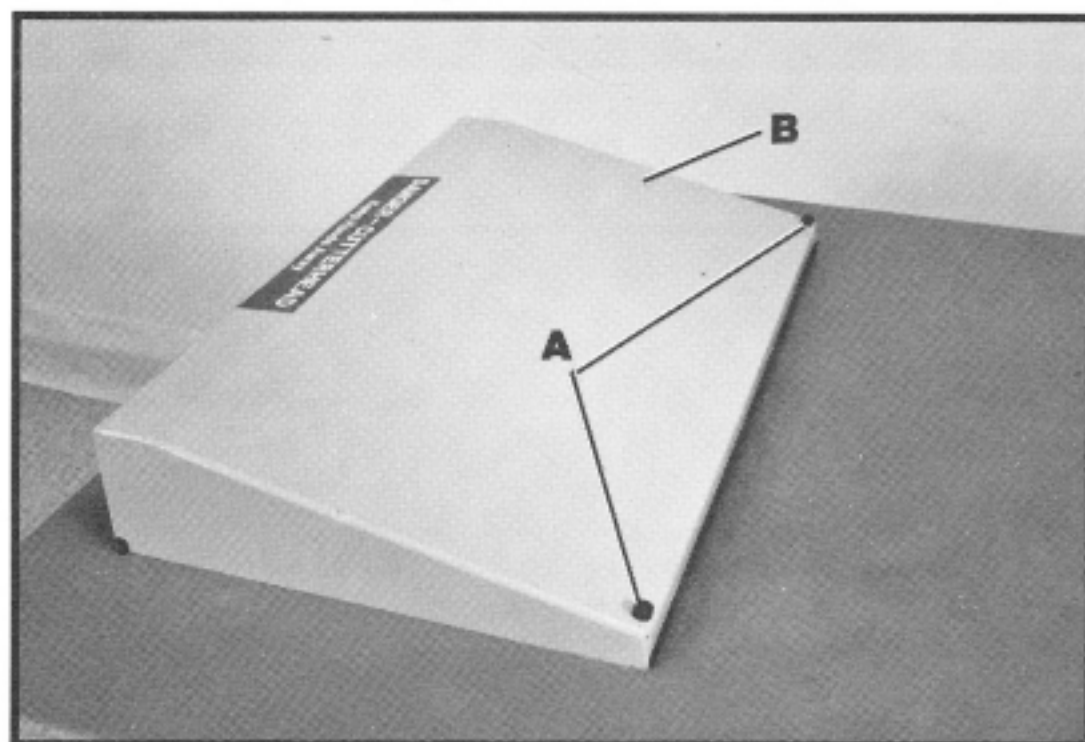

Fig. 31
2. Remove two screws (A) Fig. 31, and lift up on chip chute (B).